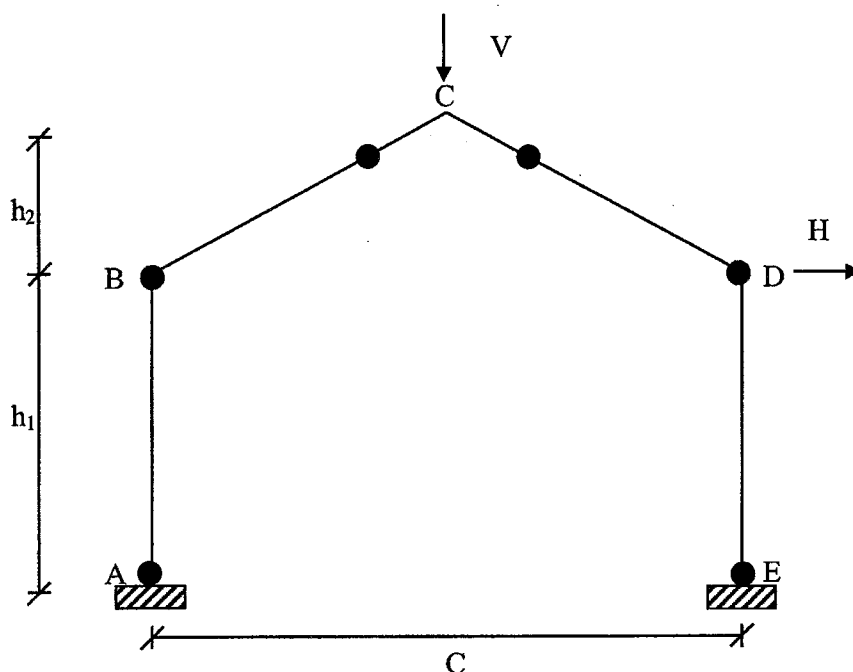

Figure 3.0
4. Figure 3.0 shows a single bay fixed base portal frame which has been constructed with steel grade S275, using the plastic theory of design. Details of the frames and loading are given below :-